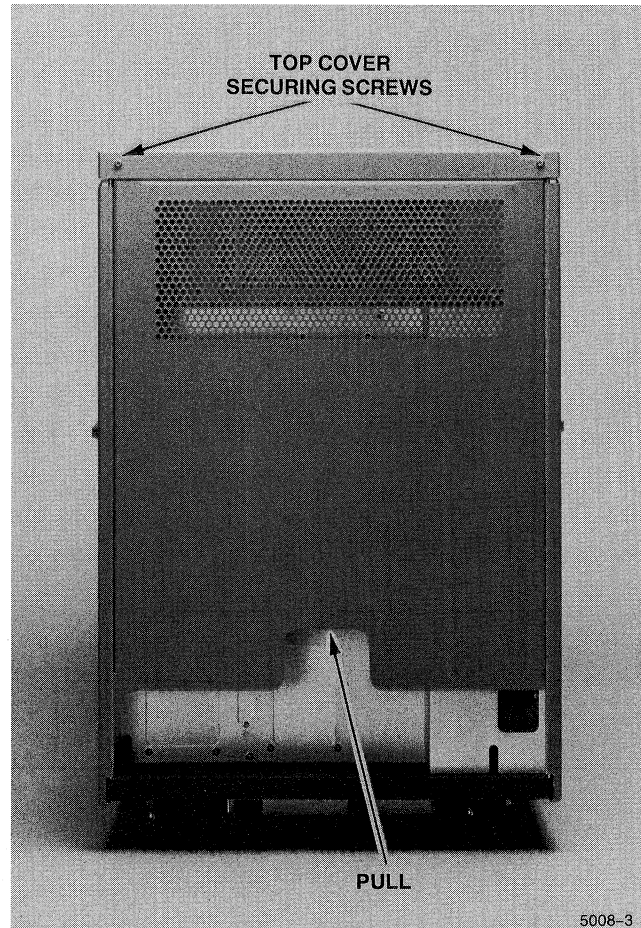

Figure 12. Rear Cover.
2. Pull the rear cover out from the bottom and down to remove (Figure 12).
3. Remove the two top cover securing screws (Figure 12), lift the rear of the cover, and pull toward the rear of the module to remove.